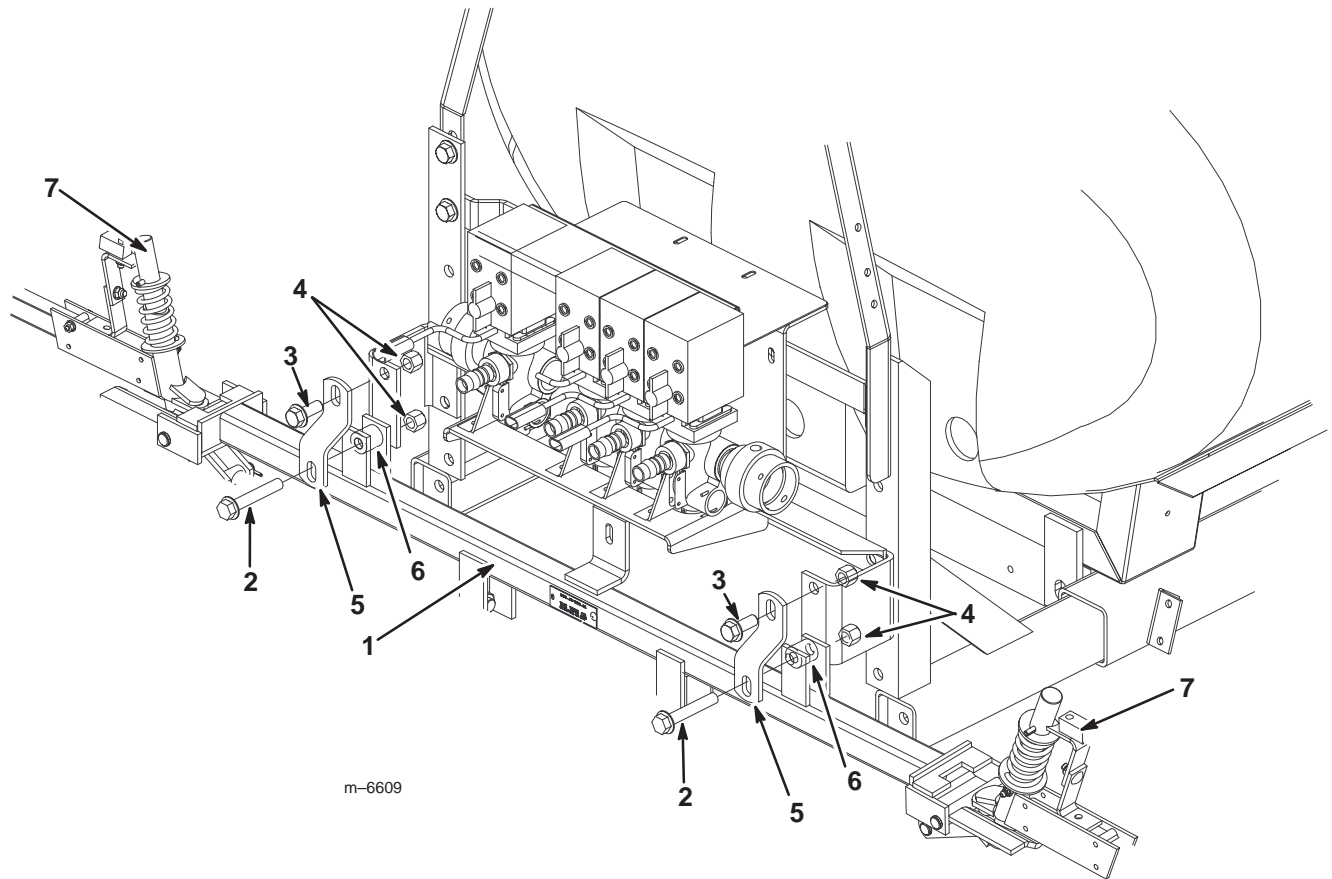

Figure 2
1. Install the center boom frame to the sprayer using the frame mounting brackets, 2 bolts (1/2 x 3 inches), 2 bolts (1/2 x 1-1/4 inch), 2 spacers, and 4 flange nuts (1/2 inch) as shown in Figure 2.